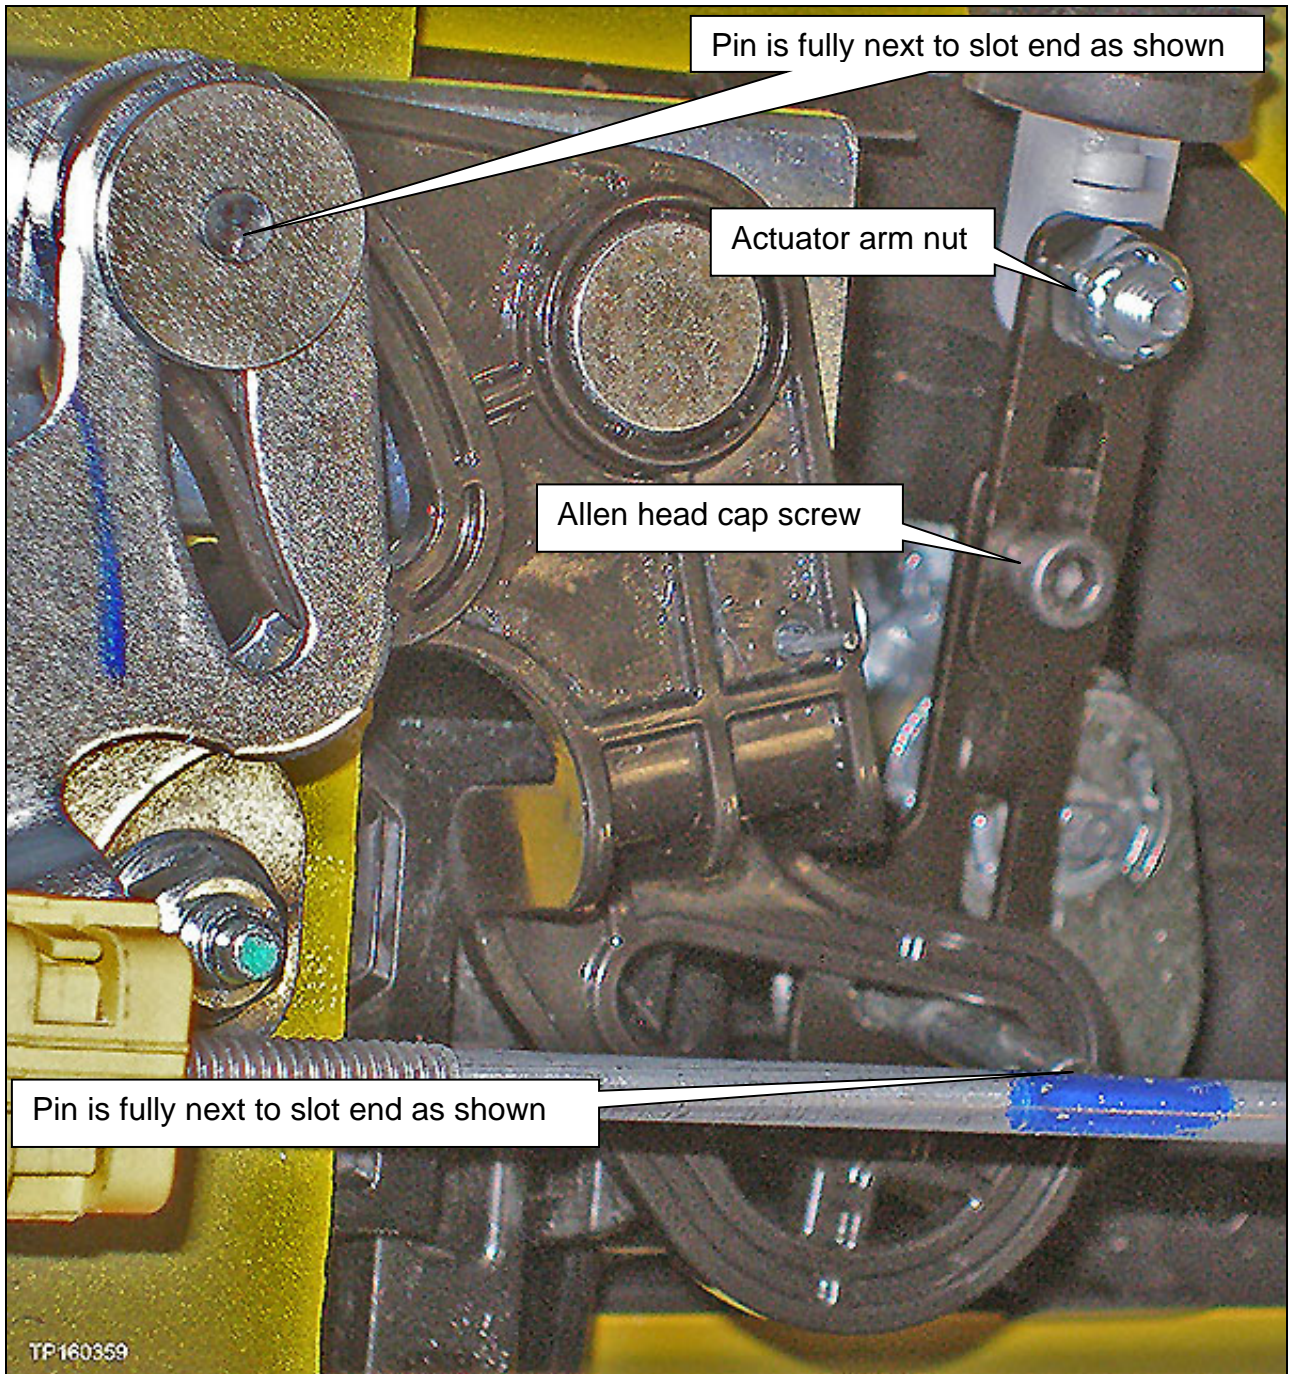

Figure 12
- f. Adjust the arm assembly length so the pins and slots are in the positions shown in Figure 12, and then tighten the Allen head cap screw to 3 N•m (0.30 kg-m, **26.5 in-lb.**).